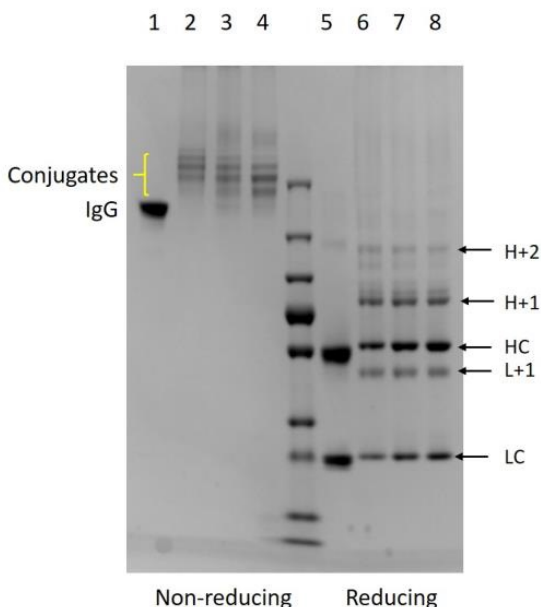
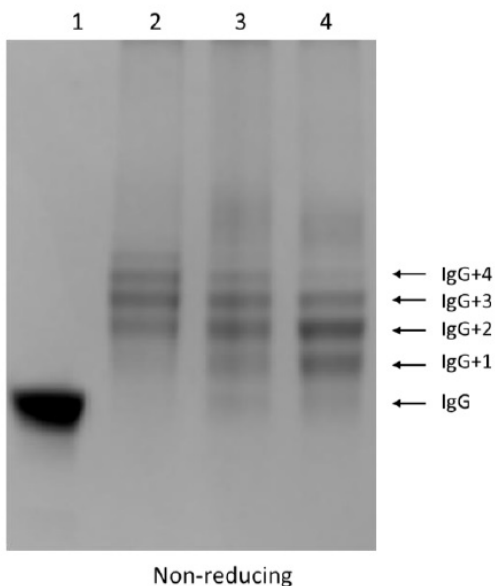

Fig 3.
Fig 4.
- 12.5** Discrete conjugate bands are more commonly seen with monoclonal antibodies and with lower loadings than those used above (see Fig. 3 below).
12.6 Tracks 2 and 6 were loaded with 2 μg of conjugate produced using the preferred procedure (10 μg of antibody added in 11 μL final volume) under non-reducing or reducing conditions. At this lower loading, the H+2 band is still visible but H+3 (not labeled on Fig. 3) is faint. On the non-reducing gel, the number of oligos attached to IgGs is readily determined. Further commentary and details of the other samples (Tracks 3, 4, 7 and 8) are given below. A magnified view of the IgG conjugates in Fig. 3 is shown in Fig. 4 below.
- 12.7** In Fig. 4, track 2 shows no free IgG and very little IgG with 1 oligo attached. Mostly there are 2-5 oligos per IgG (IgG+5 is not marked by an arrow above). In tracks 3 and 4, the conjugation reactions comprised, respectively, 20 μ g in 10 μ L and 20 μ g in 20 μ L. Not surprisingly, the labeling density changes and there are 1-4 oligos per IgG (but mainly 2-3 oligos) in track 3. In track 4, most conjugates have 1 or 2 oligos. As shown, there are smaller quantities of unlabeled IgG as the average oligo density is reduced.
- 12.8** The differences among the samples under reducing conditions (Tracks 6, 7 and 8, Fig. 3) are less pronounced and the main observation is increasing H or L chain intensity as conjugation efficiency is reduced. For each application, it may be necessary to determine the gel profile that is associated with best assay performance, and non-reducing gels are generally more useful.